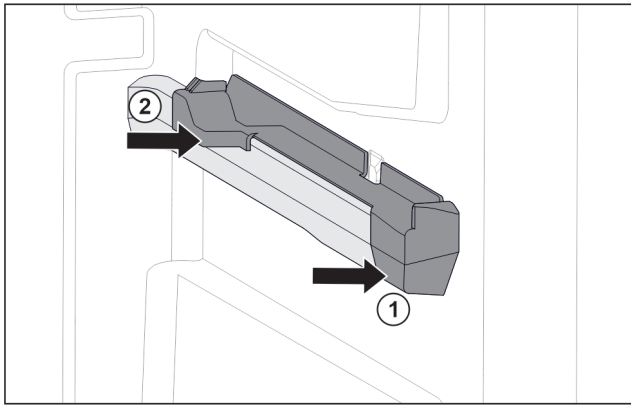

Fig. 72 Attachment on the right moulded rib
- ▶ Position attachment on moulded rib at the front. Fig. 72 (1)
- ▶ Press on attachment at the back. Fig. 72 (2)